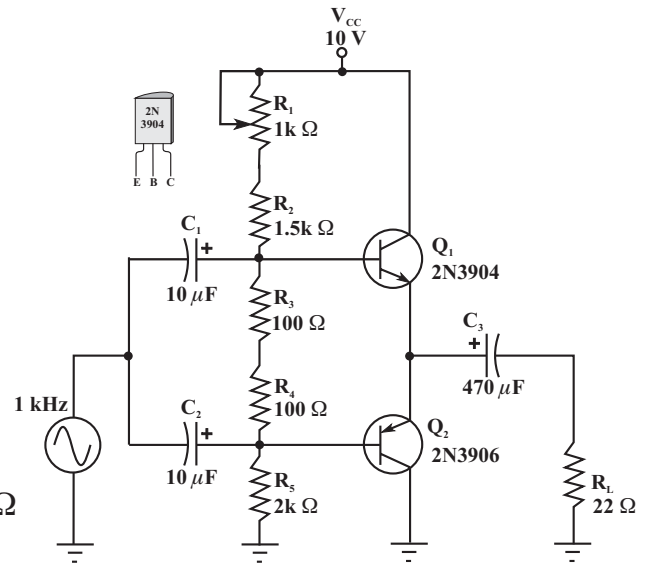

Figure 1
- 3) Build the circuit shown in Figure 1. Set R_1 initially to about half rotation.